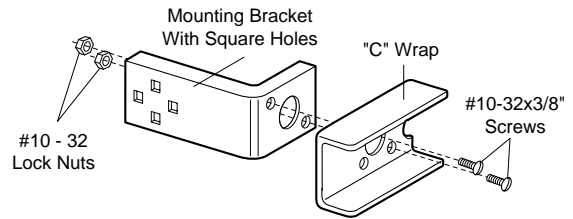

Figure 2
2. Connect each assembly to a slotted bracket, using the hardware shown in Figure 2. **Note alignment of brackets for left and right sides of the door.**
4. Use bracket mounting holes as a template to locate and drill (2) 3/16" diameter pilot holes on both sides of the garage door, 4"-6" above the floor **but not exceeding 6"** (see warning on page 12).
5. Attach bracket assemblies with #14-10x1-1/2" lag screws as shown in Figure 2.